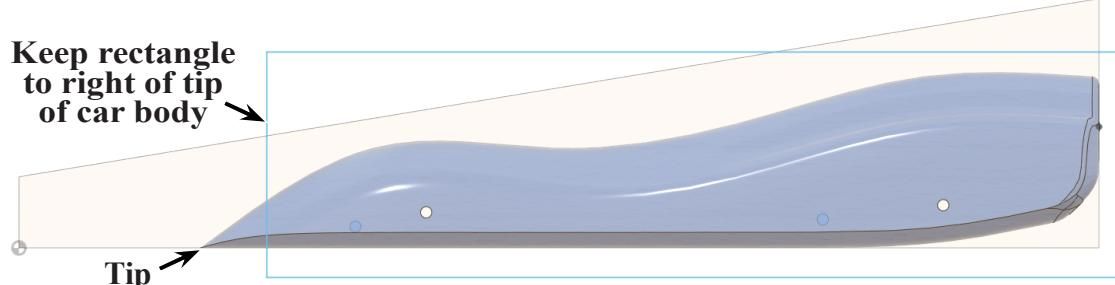

Fig. 11
Step 5. Sketch rectangle to right of front tip of car body, Fig. 11.